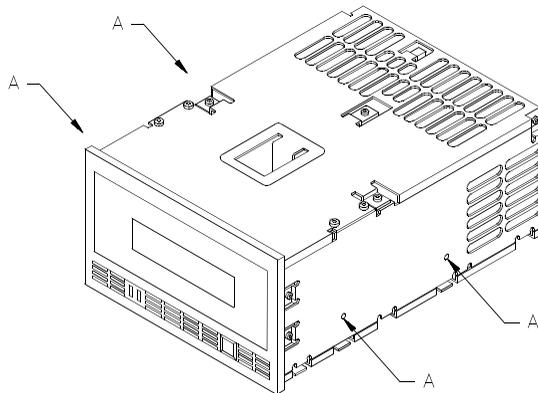

Figure 14 Mounting holes on the sides of the tape drive
The main housing of the tape drive includes two sets of mounting holes (one set on the sides and one set on the bottom, as shown in Figures 14 and 15) to allow for a number of mounting positions. These mounting holes accommodate #6-32 screws. Refer to the *EXB-8200 8mm Cartridge Tape Subsystem Product Specification* and the *EXB-8200SX 8mm Cartridge Tape Subsystem Product Specification and User's Manual* for detailed information about the spacing of these mounting holes.
- Use either the four mounting holes on the sides or the four mounting holes on the bottom (A” or B,” as shown in Figures 14 and 15). Using combinations of mounting holes from different sets may distort the frame.